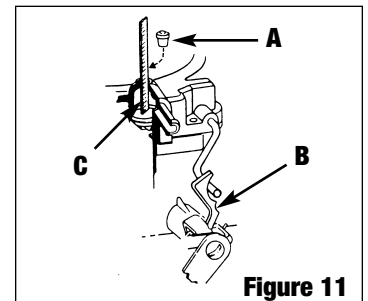

Figure 11
- **BOWL VENT MODEL 1400 (FIG. 11)**